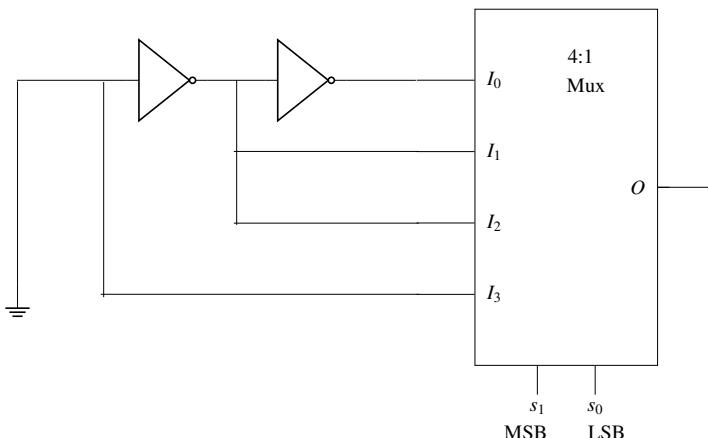

Fig. 3.24
40. The Boolean operation performed by the following circuit in Fig. 3.24 at the output O is _____.